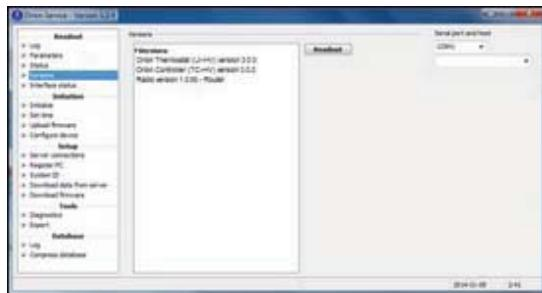

Figure 30
- In *Orion Service* (see Figure 30): choose the **Versions** alternative and click the **Readout** button. See *Quick reference guide Orion Service* for more information about the software.